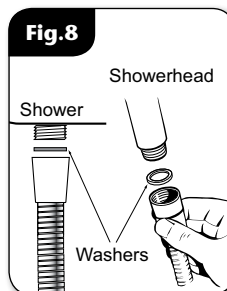

Fig.8
- Screw the flexible hose to the shower outlet and showerhead, making sure the supplied washers are in place at both ends of the flexible hose (fig.8).